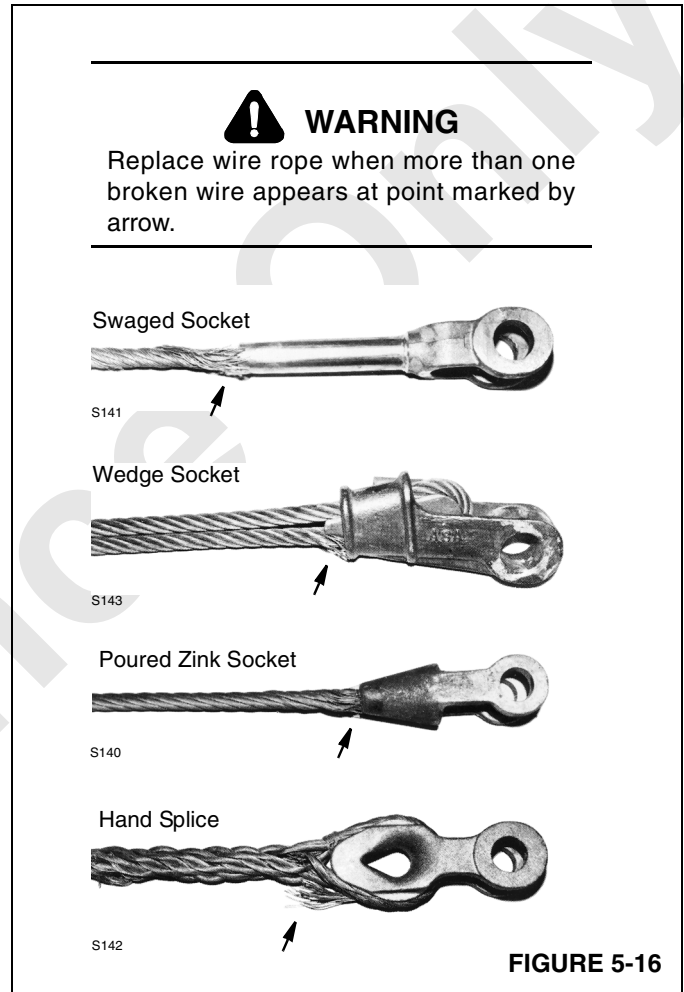

FIGURE 5-16
- Standing Ropes (pendants) — more than two broken wires in one lay length in sections beyond the end attachment, or more than one broken wire at the end attachment (Figure 5-16).